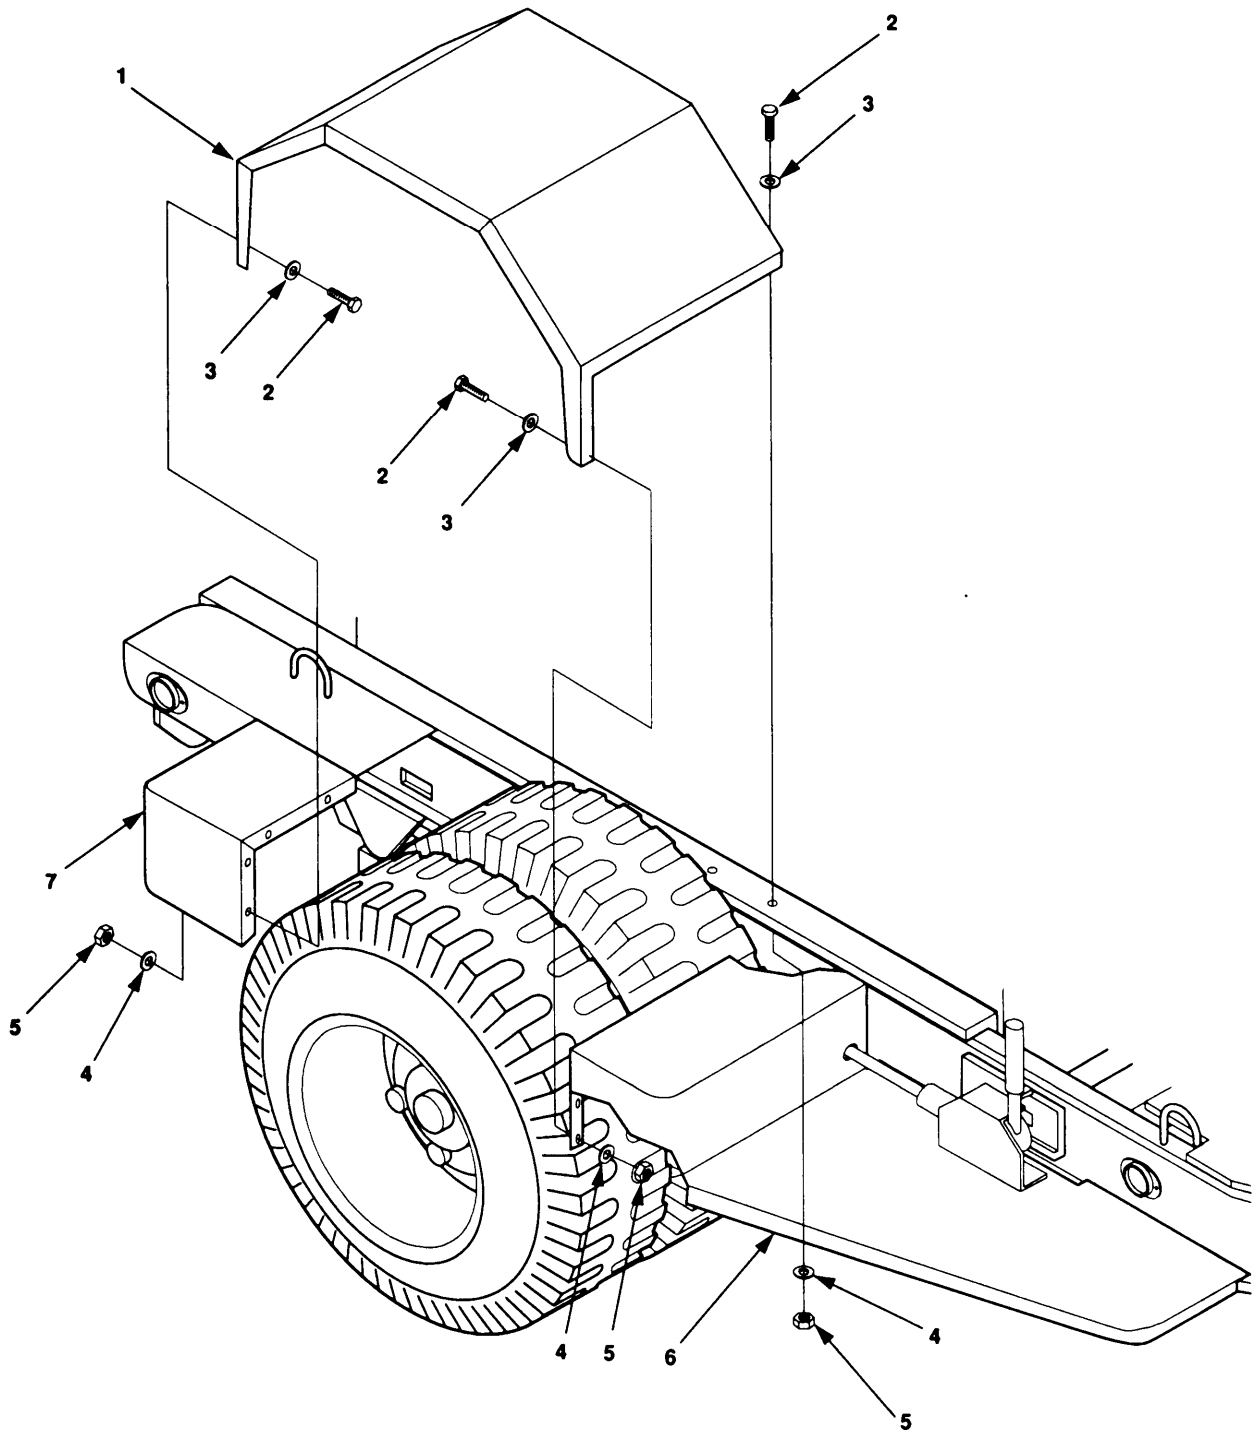

Figure 4-19. Fender Replacement.
1. Remove seventeen self-locking nuts (5, figure 4-19), flat washers (4), bolts (2), and flat washers (3) securing fender (1) to trailer frame. Discard self-locking nuts.
2. Remove fender (1).